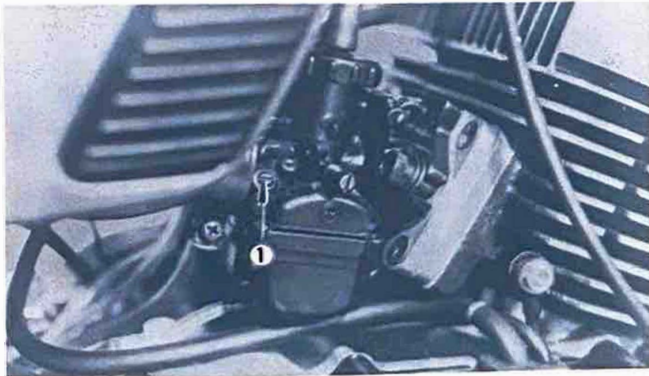

Fig. 49
2. IDLING SPEED ADJUSTMENT (Fig. 49, 50)